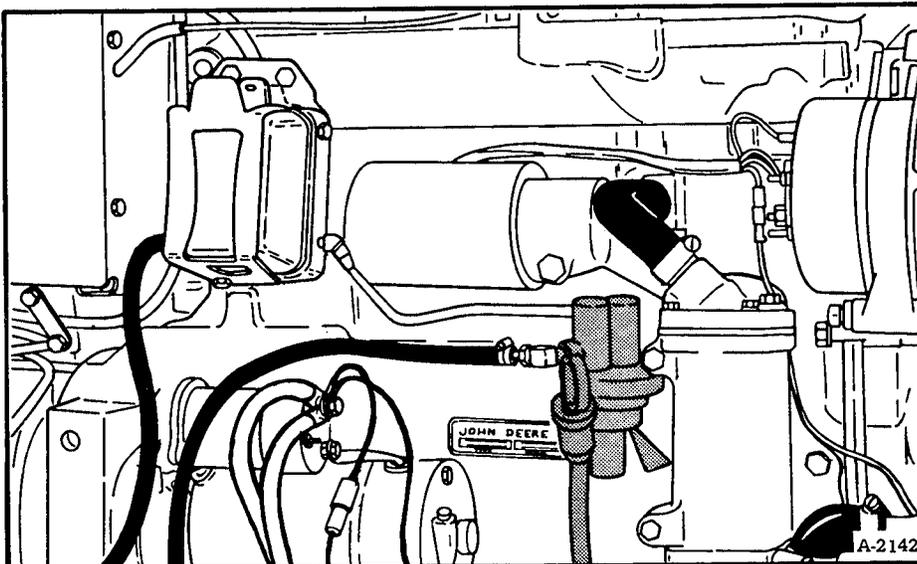

Fig. 1-31 Fuel Pump & Dipstick
- (1) Disconnect the pump inlet and outlet pipes (Fig. 1-31).
- (2) Remove the engine oil dipstick and tube from engine.
- (3) Remove mounting bolts, and remove pump from engine block.